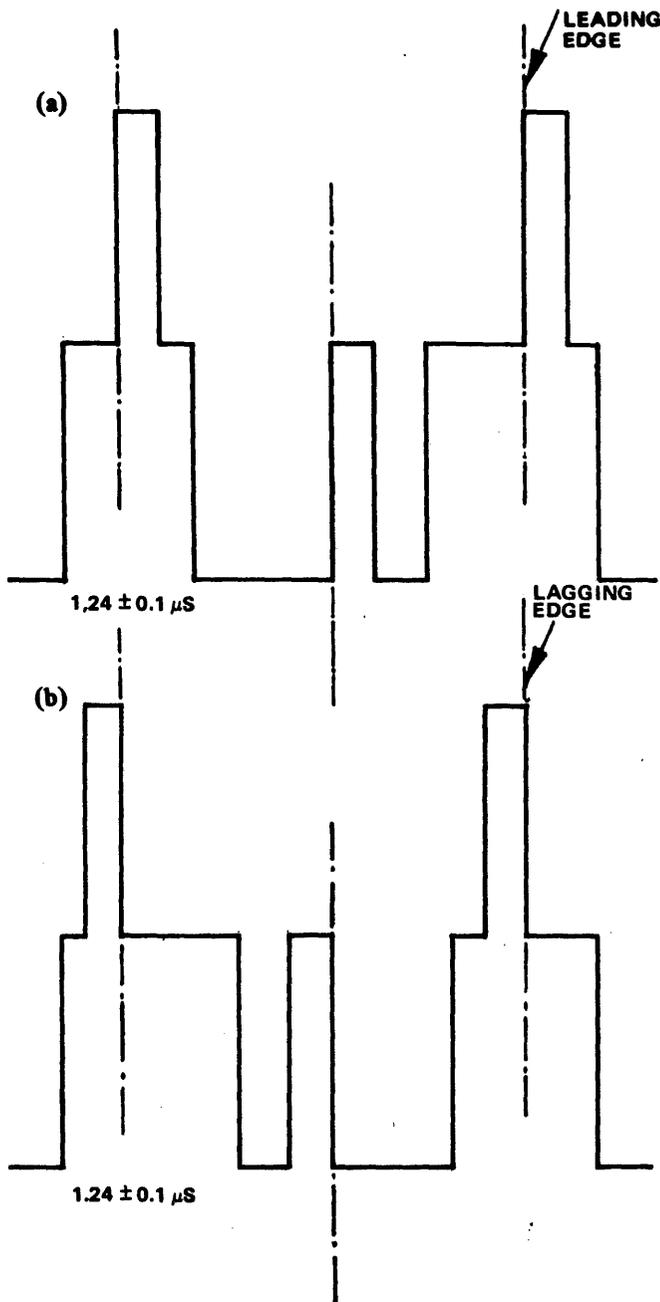

Figure 4-8. Data Window Adjustment
7. Adjust RV3 until the leading edge of the pulse at test point TP 11/7 occurs - midway along the pulse on test point TP 11/2 (figure 4-8(a)).
For boards with artwork revision K, invert Channel B to obtain the same display as in figure 4-8(b). Adjust RV3 until the lagging edge of the pulse at test point TP 11/7 occurs midway along the pulse on test point TP 11/2